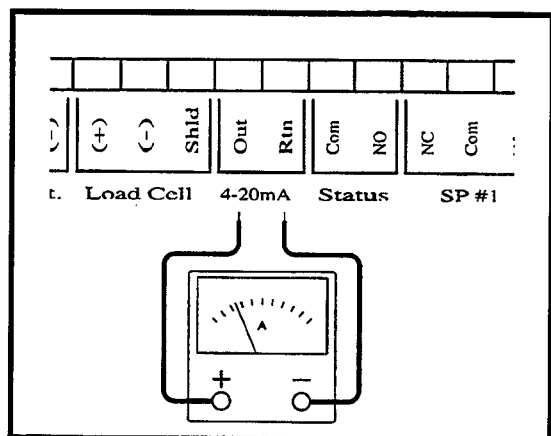

Figure 3-1
- (c) Connect an ammeter to the 4-20mA output terminals of the Model 200 as shown in Figure 3-1.